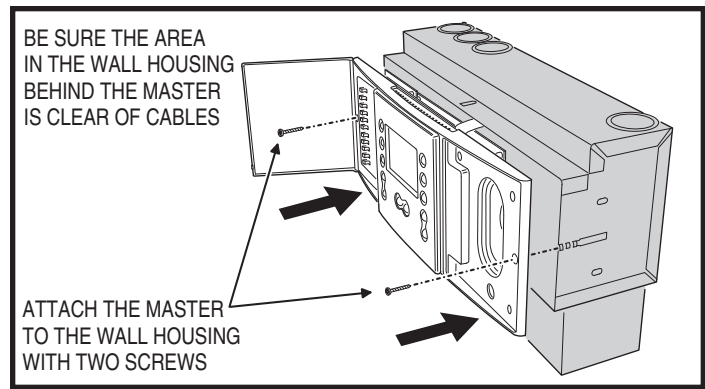

Figure 20. Master Station Only in DMC1H Wall Housing
3. Secure the DMC3-4 Master Station to the wall housing using the two long screws provided (see Figure 20).